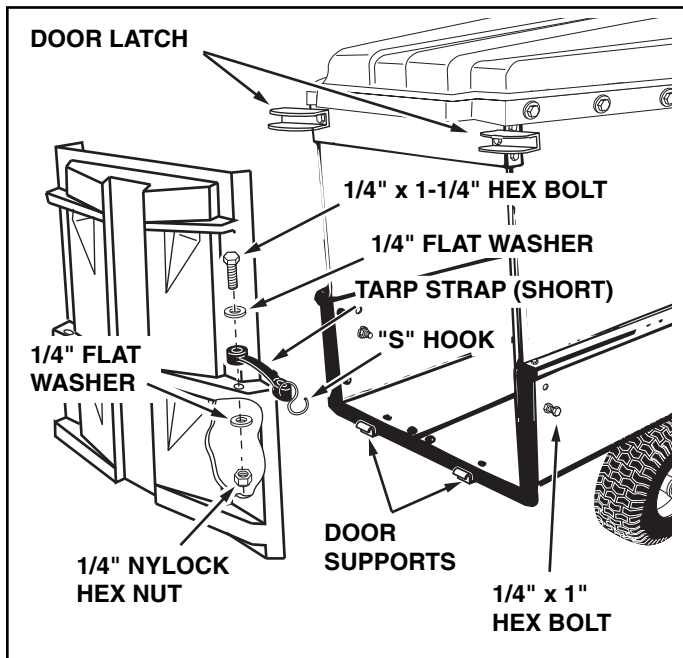

FIGURE 15
25. Assemble a short tarp strap to rear door using one 1/4" x 1-1/4" hex bolt, two 1/4" flat washers and one 1/4" Nylock hex nut. Assemble an "S" hook through loose end of strap. See figure 15. Repeat on other side of door.
26. Assemble door to rear of cart by resting bottom of door on door supports and pushing top of door in against cross brace. Secure top of door using door latches on each side. See figure 15.
27. Hook both the tarp straps onto the 1/4" x 1" hex bolts in the sides of the cart. See figure 15.